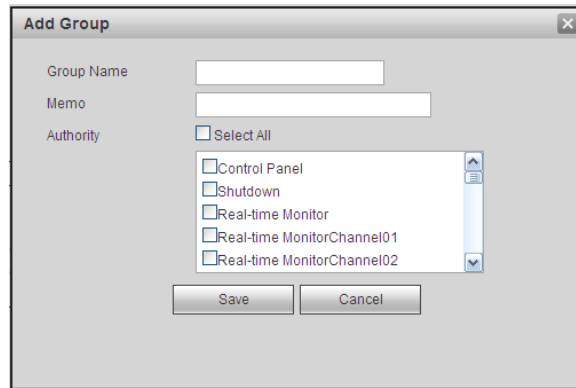

Figure 5-49
**Add group:** It is to add group and set its corresponding rights. See Figure 5-49.